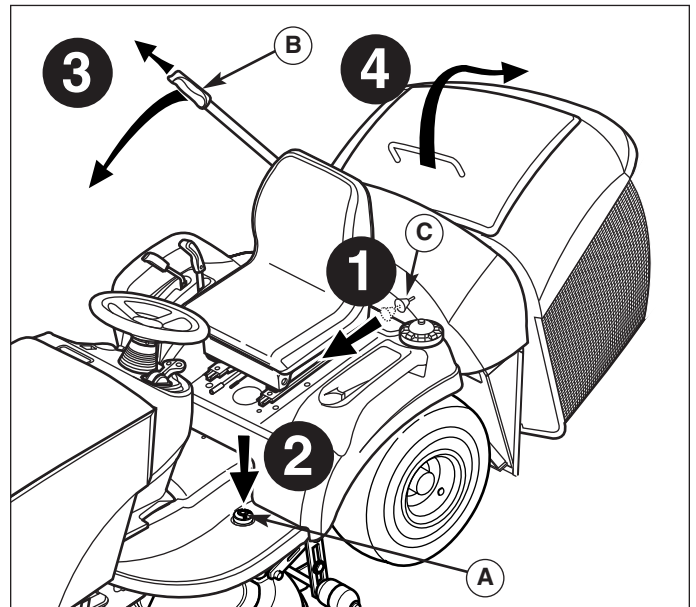

Figure 11. Emptying the Hopper
1. Move the catcher removal knob (C, Figure 11) forward to unlock the catcher from the rear support arms.
2. Depress the catcher dump lock pedal (A).
3. Use the catcher lever (B) to open the catcher slightly.